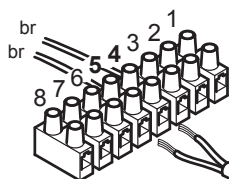

Fig. 12
9. Connect the two brown wires on the new harness to 4 & 5 on the M2 low voltage 8 way terminal strip (Fig. 12).
10. Connect the IFOS cable to 4 & 5 on the M2 low voltage 8 way terminal strip (Fig. 12). There is no polarity.